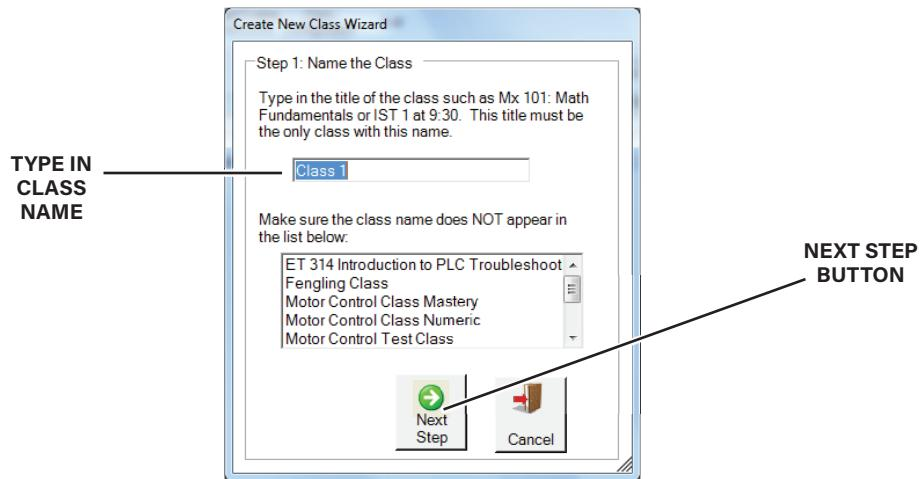

Figure 49. Create New Class Wizard
- A. Click the **Add Class** button to start the **Create New Class Wizard** shown in figure 49.